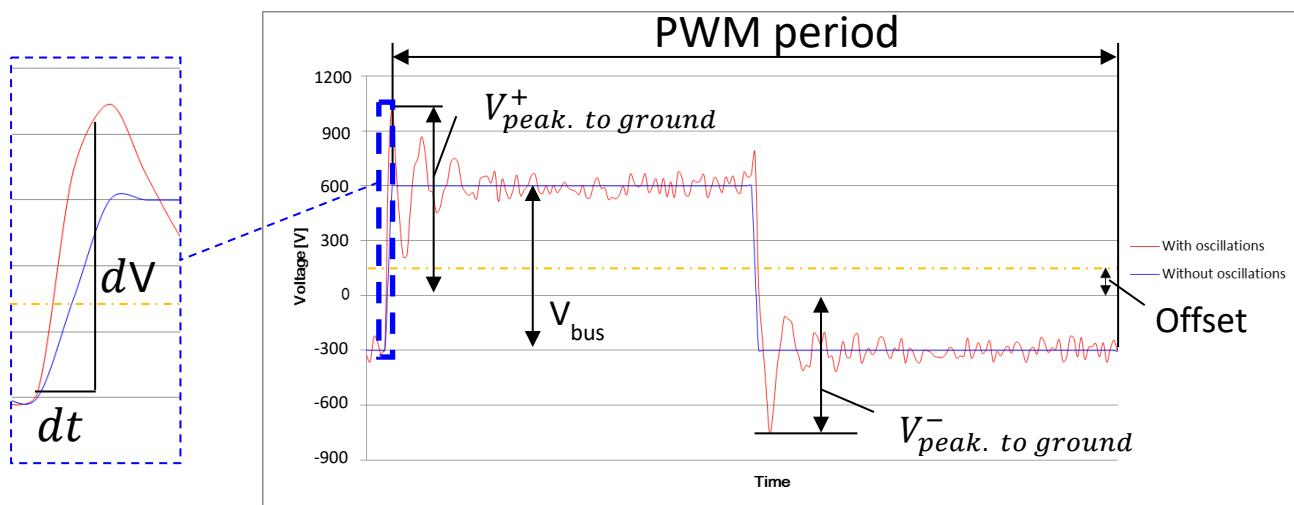

Figure 3.5.1 Phase to ground voltage oscillation schematic (600/750  $V_{DC}$  controller)
- 600 or 750  $V_{DC}$  controllers: 1050  $V_p$  maximum (phase to ground at the PWM frequency) and a voltage gradient:  $11 kV/\mu s$ , as shown in Figure 3.5.1, and Table 3.5.1.